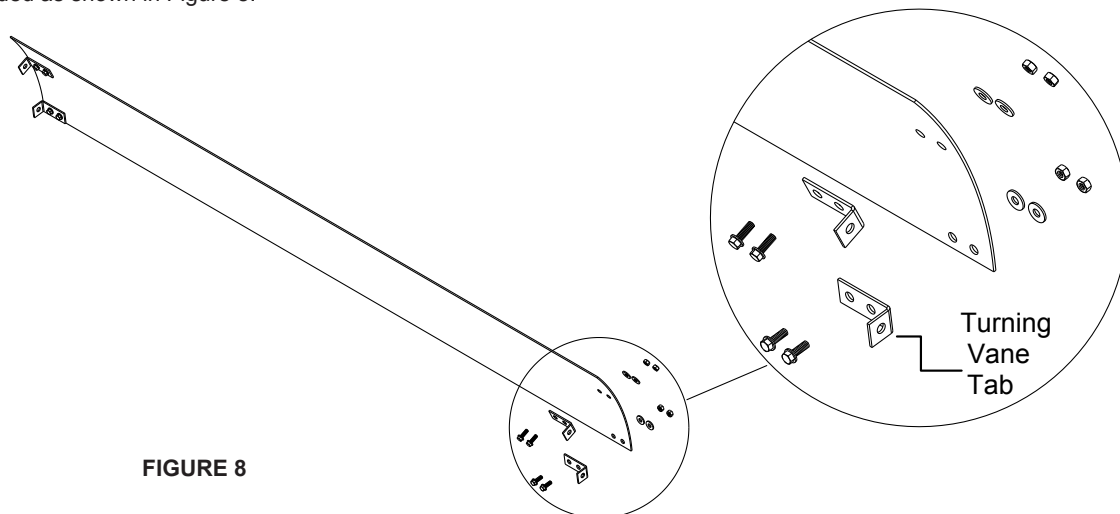

FIGURE 8
3. Attach two turning vane tabs to the bottom side of each turning vane end using 5/16"-18 X 3/4" Wiz Lock bolts, washers, and nuts provided as shown in Figure 8.